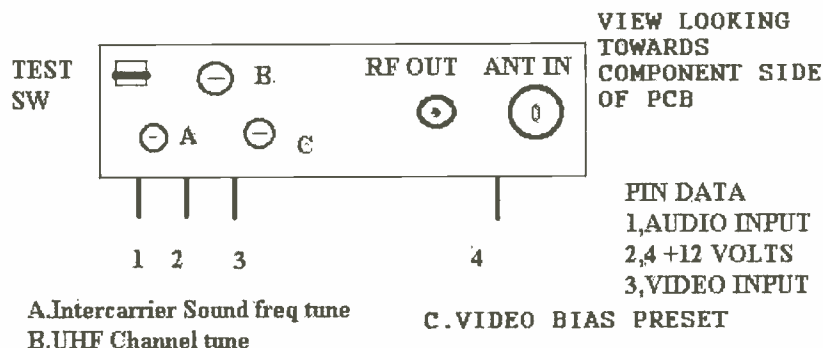

Fig. 1: The UHF modulator used in the Pace SS9200 satellite receiver.
becomes excessively contrasty and there's buzz on sound. If the preset is not advanced far enough the picture can look a bit dim. The intercarrier sound coil can be adjusted for either 6MHz (UK) or 5.5MHz (Continental) operation. See Fig. 1. The core is fairly fragile, so take care with any adjustment required.